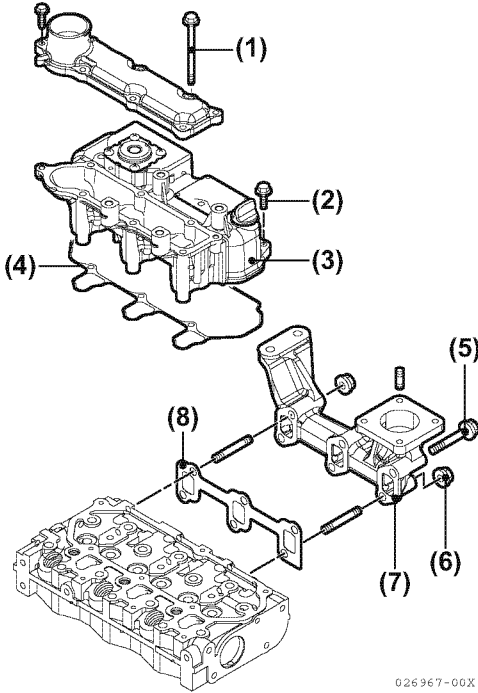

Figure 6-2
1. Remove the intake manifold bolts (Figure 6-2, (1)) and valve cover bolts (Figure 6-2, (2)).
2. Remove the valve cover / intake manifold (Figure 6-2, (3)). Discard gasket (Figure 6-2, (4)).
3. Remove the exhaust manifold bolts (Figure 6-2, (5)) and nuts (Figure 6-2, (6)). Remove the exhaust manifold (Figure 6-2, (7)) and the exhaust manifold gasket (Figure 6-2, (8)).